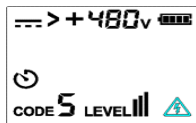

Figure 12.1g DC voltage (>480V) measurement
8. When the voltage is 8 V ~ 480 V DC/AC (50/60 Hz). If the measured voltage is greater than 480 V, then display is as shown in Figures 12.1g, 12.1h and 12.1i.